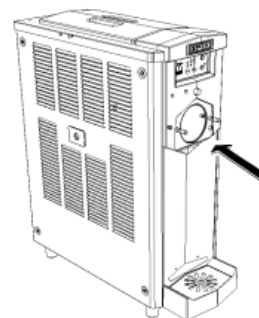

Fig. 56
- Wash the freezing cylinder and top tank thoroughly, removing any remaining product with a clean sponge soaked with the sanitizing solution making sure to completely wet all surfaces for at least 60 seconds. Let air dry. Follow local health ordinances (see Fig. 56).
- Spray sanitizer on all these surfaces leaving it as suggested by the manufacturer (see Fig. 56).